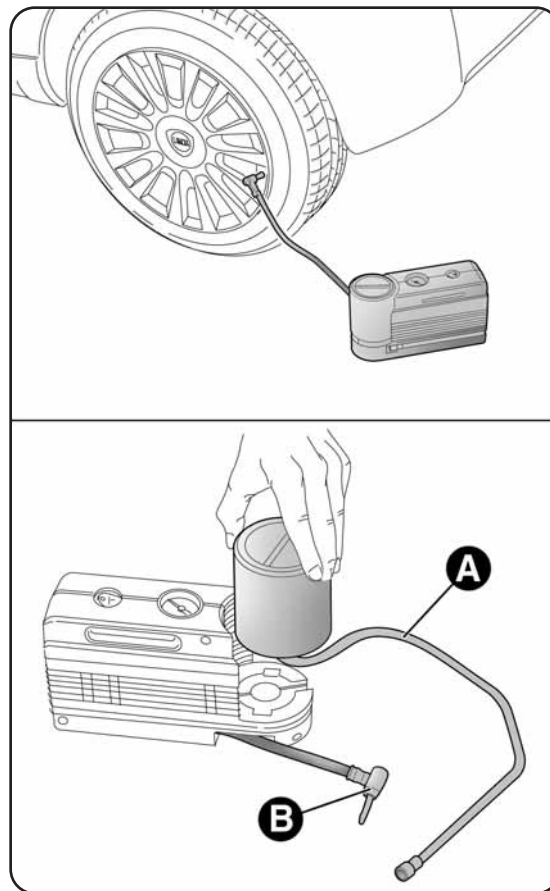

fig. 7
- disconnect connection A-fig. 7;